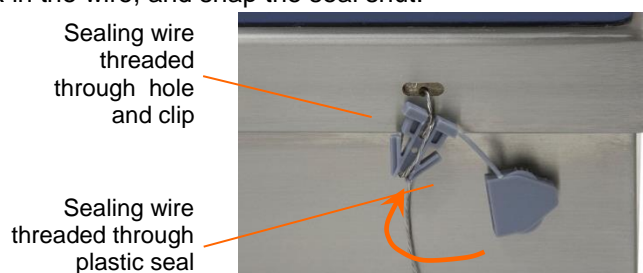

Figure 1-13: Seal Threaded and Ready to be Closed
For sealing details of the T72XW indicator, refer to Figure 1-13 and follow these steps:
3. Thread the end of the wire cable through the hole in the plastic seal (as shown in Figure 1-13) remove any remaining slack in the wire, and snap the seal shut.